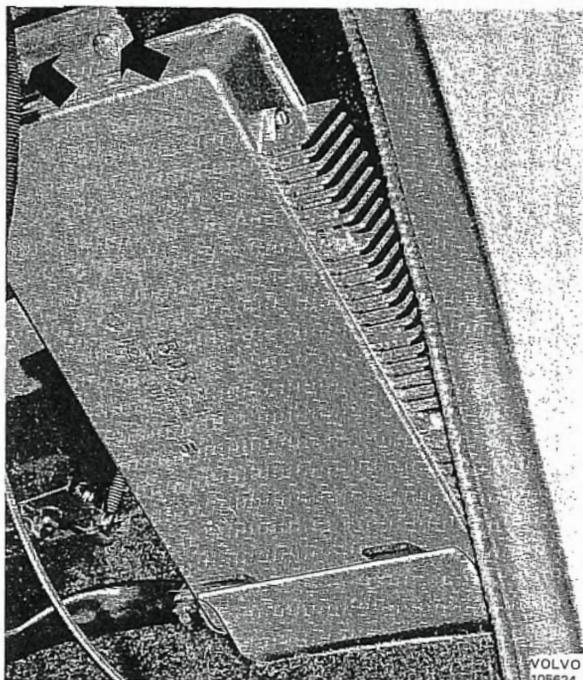

Fig. 2-93. Removing control unit
2. Remove the two screws, see Fig. 2-93, which secure the control unit. Take down the control unit.